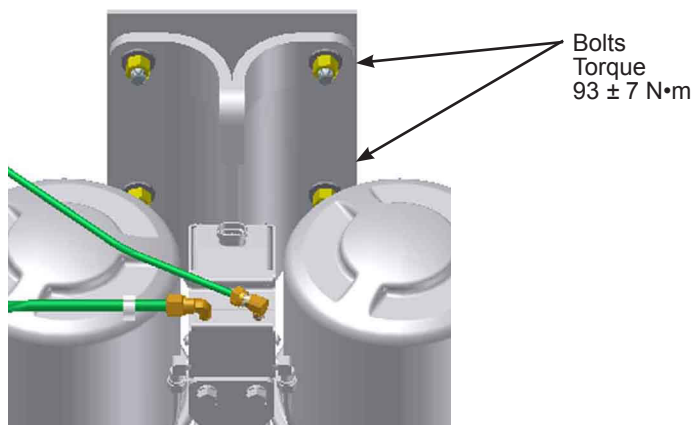

Figure 4 - Existing Tandem Air Dryer Assembly Bolts Location and Torque
1.7. Remove the four bolts retaining the tandem air dryer assembly, and retain hardware. See Figure 4.
1.11. Tighten to the torque specified in Figure 4.